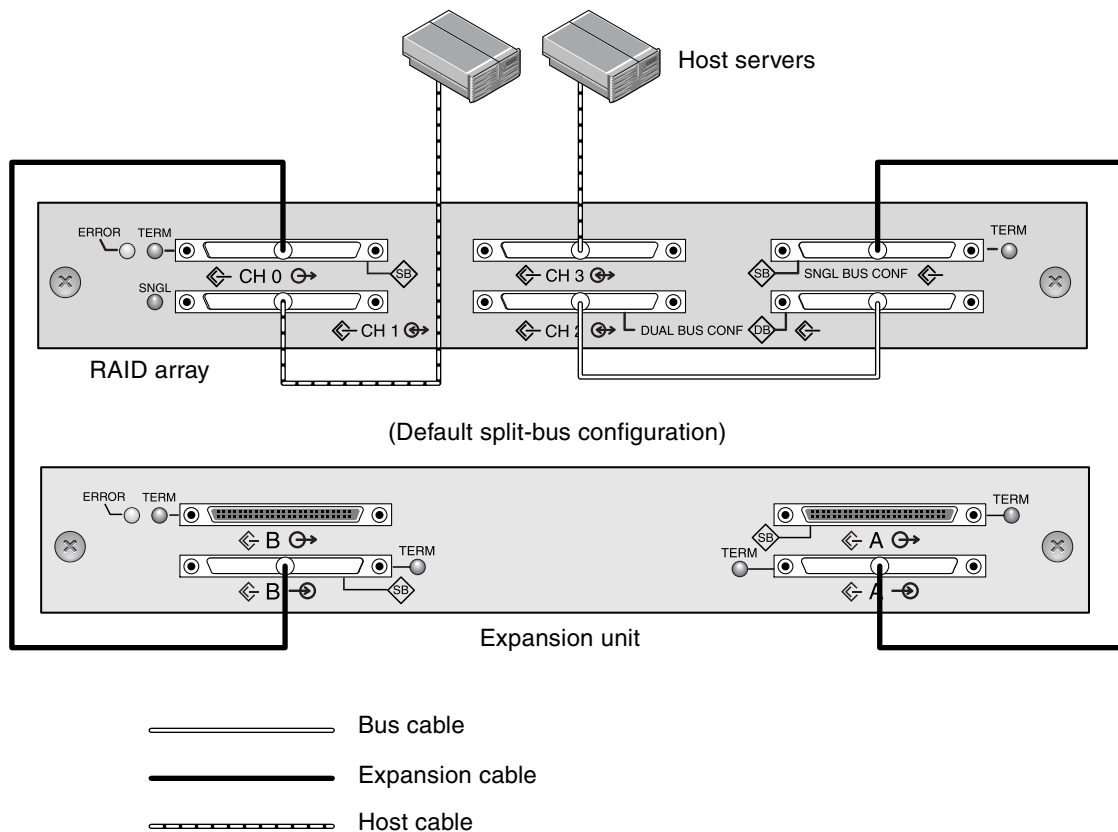

FIGURE 4-17 Split-Bus Configuration With One RAID Array and One Expansion Unit
In FIGURE 4-17, RAID channels 0 and 2 are expanded into the expansion unit, in a split-bus configuration set up on the RAID array and kept by default for the expansion unit.
3. Based on the configuration shown in FIGURE 4-17, the default drive IDs for a split-bus configuration are shown in the following figures.